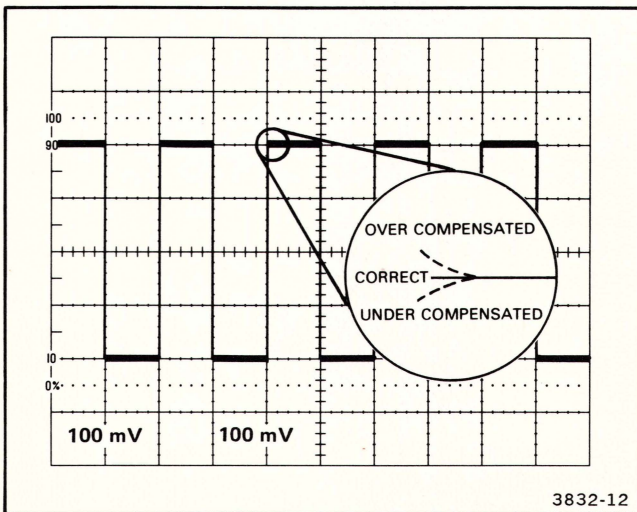

Figure 5-1. Probe low-frequency compensation.
5. Check the waveform for overshoot and rolloff (see Figure 5-1). If necessary, use a small-bladed screwdriver to adjust the probe low-frequency compensation for a square front corner on the waveform.